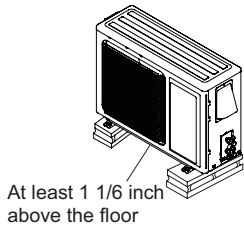

Fig.18
(1) Take sufficient protective measures when installing the outdoor unit.
(2) Make sure the support can withstand at least four times the unit weight.
(3) The outdoor unit should be installed at least 1 1/6inch above the floor in order to install drain joint.(As show in Fig.18)
(4) For the unit with cooling capacity of 2300W~5000W, 6 expansion screws are needed; for the unit with cooling capacity of 6000W~8000W, 8 expansion screws are needed; for the unit with cooling capacity of 10000W~16000W, 10 expansion screws are needed.